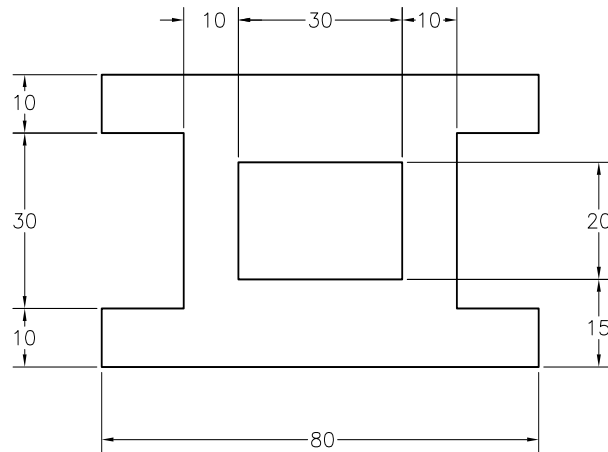
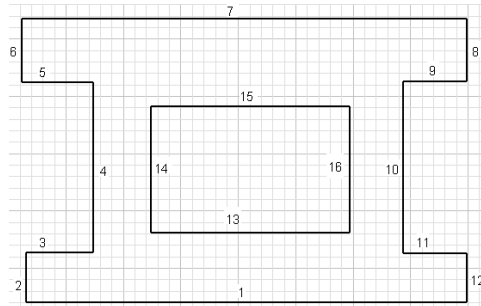

Figure 3-44 Dimensioned sketch for Tutorial 1
Figure 3-45 Initial sketch drawn using the sketching tools
In this tutorial, you will draw the sketch shown in Figure 3-44. This sketch is the same as the one drawn in Tutorial 2 of Chapter 2. After drawing the sketch, you will add the required constraints and then dimension it. **(Expected time: 30 min)**
- Draw the initial sketch by using the **Line** and **Two point rectangle** tools, refer to Figure 3-45.
- Using the **Line** tool and the **Two point rectangle** tool, draw the required sketch similar to the one shown in Figure 3-44. You do not need to draw the sketch to the exact length. Use the temporary tracking option for drawing the sketch. For your reference, all lines in the sketch are numbered, see Figure 3-45.
It is evident from Figure 3-45 that some of the lines need to be of the same length. For example, lines 1 and 7, lines 2 and 6, lines 8 and 12, and so on need to be of the same length. You can do so by using two options. In the first option, you can assign dimensions
1. Choose the **Dimension** tool from the **Constrain** panel of the **Sketch** tab. Alternatively, right-click anywhere in the graphics window and then choose **General Dimension** from the Marking Menu displayed. Select line 1, refer to Figure 3-45.